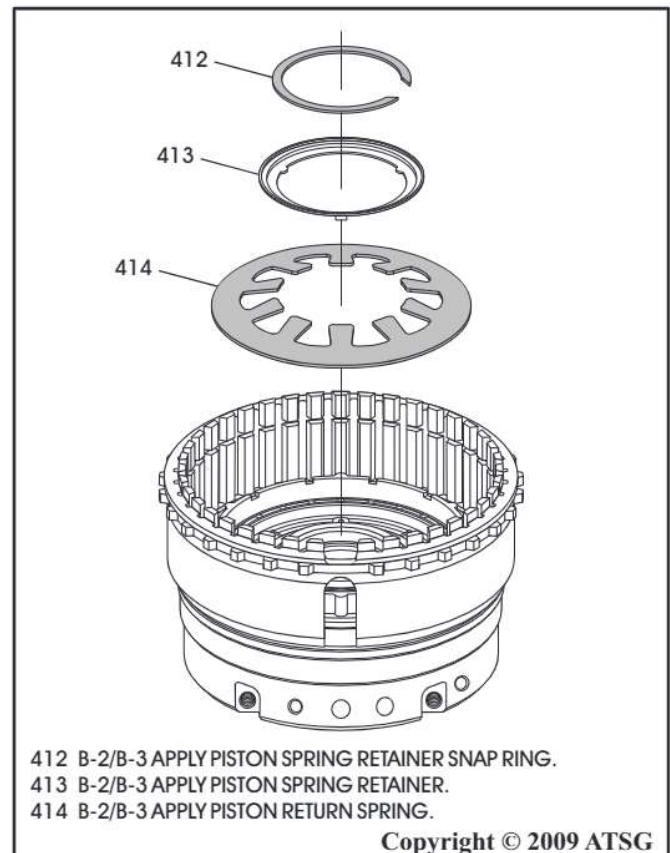

Figure 161
19. Install the B-2/B-3 piston return spring in the direction shown in Figure 161.
20. Install B-2/B-3 piston return spring retainer, as shown in Figure 161.
21. Compress the return spring and retainer and install the snap ring, as shown in Figure 161.